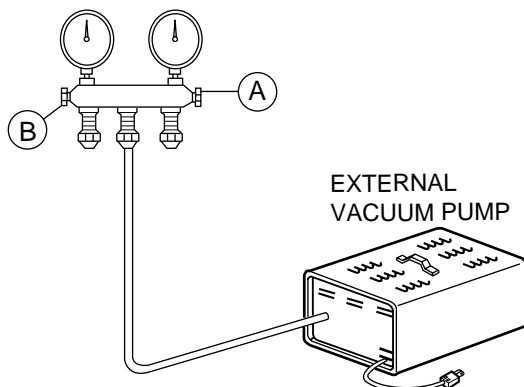

Figure 18A-Pulling Vacuum
- 1) Connect the vacuum pump, as illustrated figure 18A.